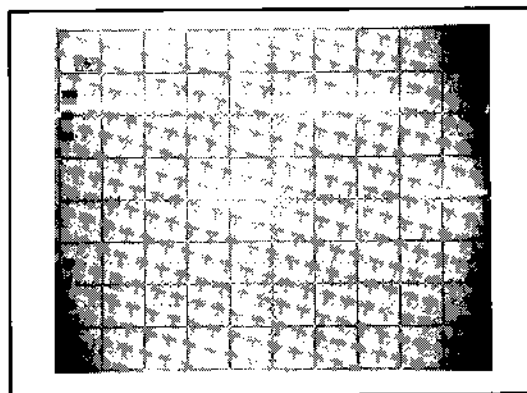

Figure 5-2. Power Supply Clock Output.
i. Verify that the observed waveform is within $\pm 10\%$ of that shown in Figure 5-2.